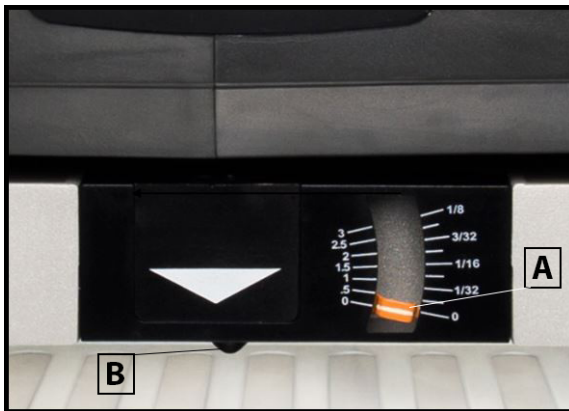

Figure 10
1. With the machine OFF, insert your workpiece just under the cut scale (A). See FIG 10.
2. Crank the raising / lowering handle until the button (B) comes in contact with the workpiece. As you rotate the raise / lower handle, the needle on the depth of cut scale will move showing how much material will be removed in that pass.